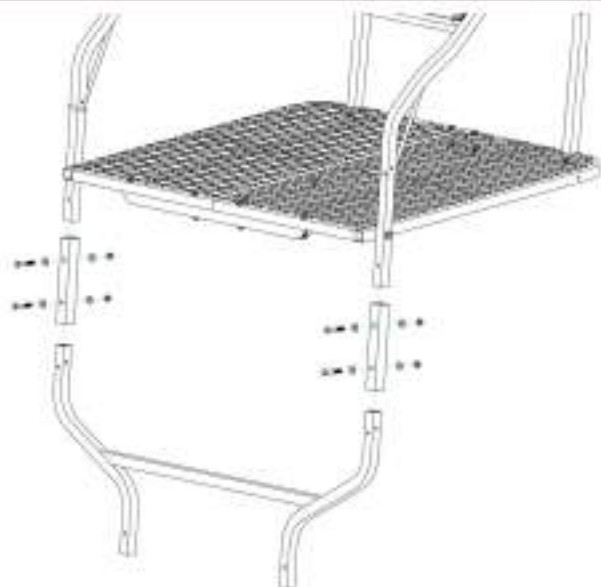

Figure 33
Step 18. Attach the ladder adapter to the bottom of the uprights below the base of the stand using two ladder connectors and four $\frac{1}{4}$ "x1-3/4"bolts, eight washers and four nuts as seen in Figure 33. Do not tighten bolts yet.